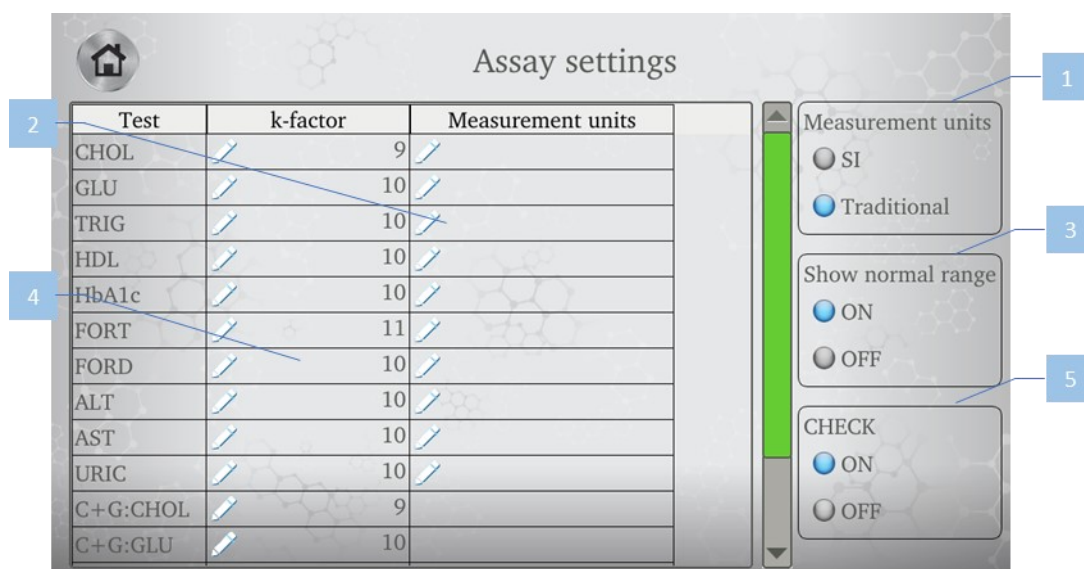

Figure 28
It allows users to select either measurement units: traditional or international system (SI) (Figure 28_1).
It allows users to select the measurement unit of each single assay: either traditional and/or the international system (SI) (Figure 28_2).
It allows users to enable or disable the normal values for each assay (Figure 28_3).
It allows users to modify the k-factor: the correct k factor for a test is shown on the package of the original Callegari Srl reagents. Make sure that the k-factor matches that shown on the label (Figure 28_4).
It allows users to enable or disable the presence/absence check of a blood sample in the cuvette (Figure 28_5).